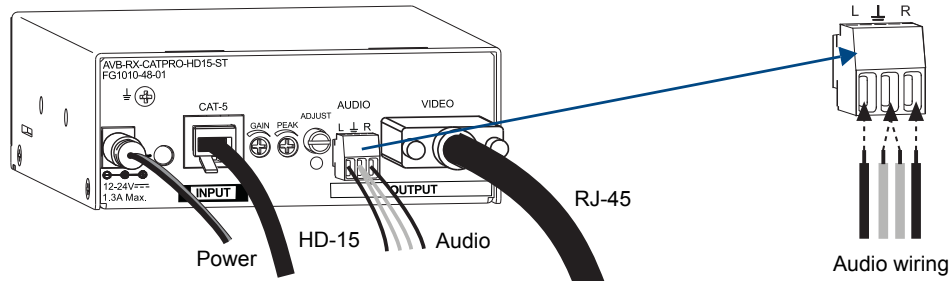

**FIG. 38** Attach source device connectors, RJ-45 connector and power to TX
1. Insert the audio mini-jack (3.5 mm) into the Audio Input connector (FIG. 38).